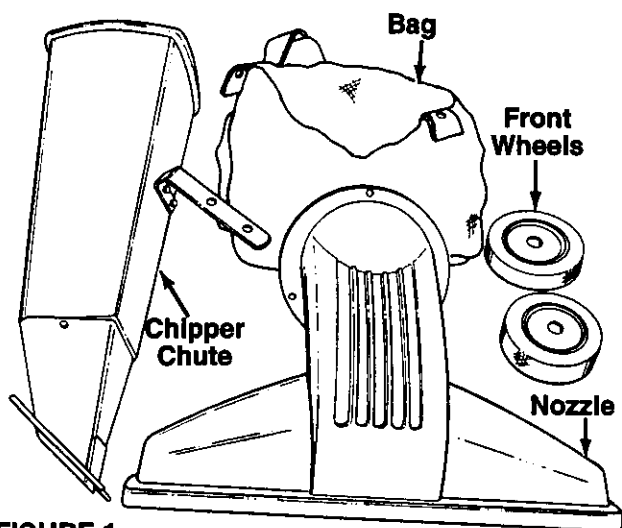

FIGURE 1.
- ← (See Figure 1)
- (2) Front Wheels